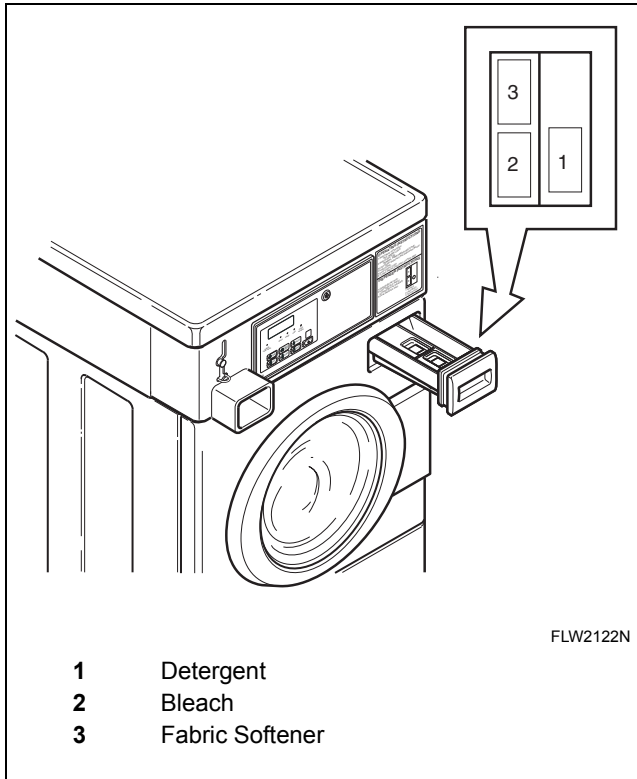

Figure 24
Open dispenser drawer. Measure and add low sudsing, high efficiency (HE) detergent (1), bleach (2) and fabric softener (3) to the dispenser drawer (refer to *Figure 24*). Close dispenser drawer.